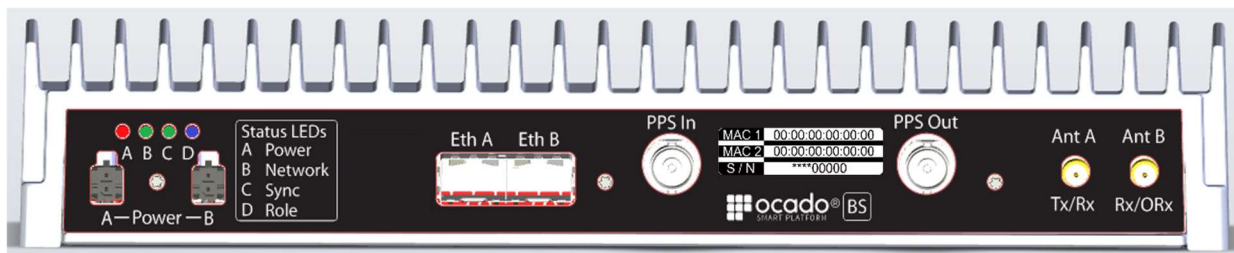

Figure 4 Base Station Connectors
- See Figure 4 for the location of the Base Station power connectors. Base Stations will work with only one power supply, but redundancy is recommended.
Plug in the chosen SFP module(s) and connect the appropriate length and type of cables to the Base Station Ethernet connector, see Figure 4 for the location of these connectors.